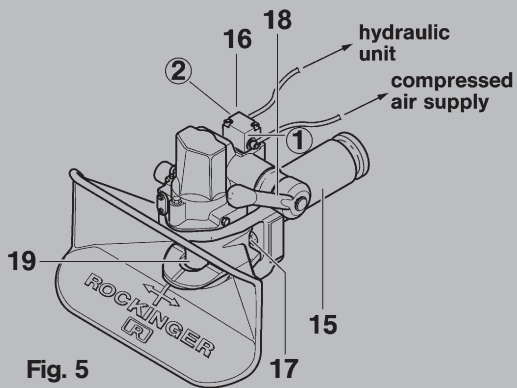

Fig. 5
- Fit pneumatic connection set 70981 (Voss system, not supplied) (see Fig. 5).
- From valve (16) connection ② to hydraulic unit.
- From valve (16) connection ① to compressed air supply (secondary consumer – max. 10 bar, min. 5 bar).